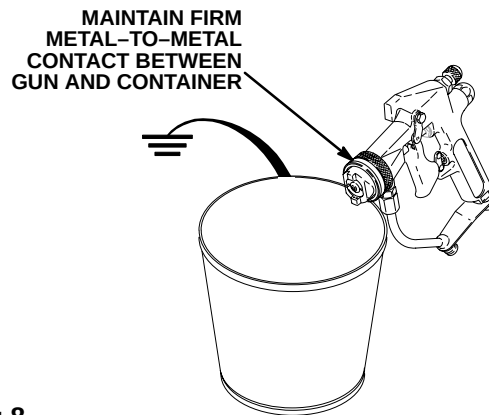

Fig 8
- 3 Be sure the trigger safety latch is set. Remove the spray tip and air cap from the gun. Disengage the safety latch. Hold a metal part of the gun firmly to the side of a grounded metal pail. See Fig 8. Close the bypass valve. Trigger the gun into the pail. Turn on the sprayer. Watch the side of the pail for solvent to appear. Then release the gun trigger. Turn off the sprayer.